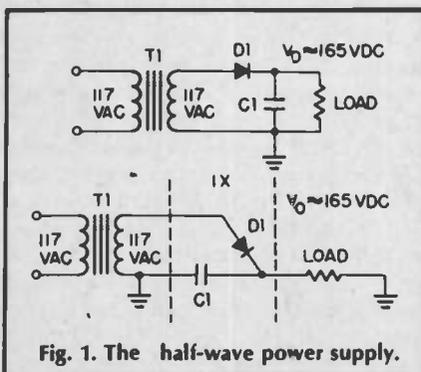
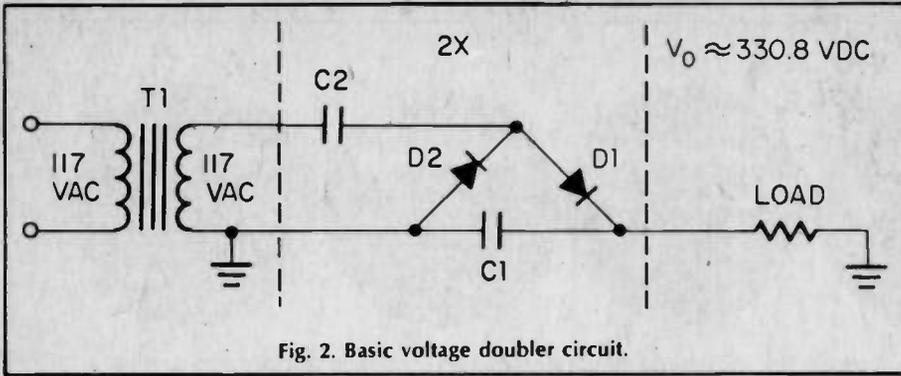
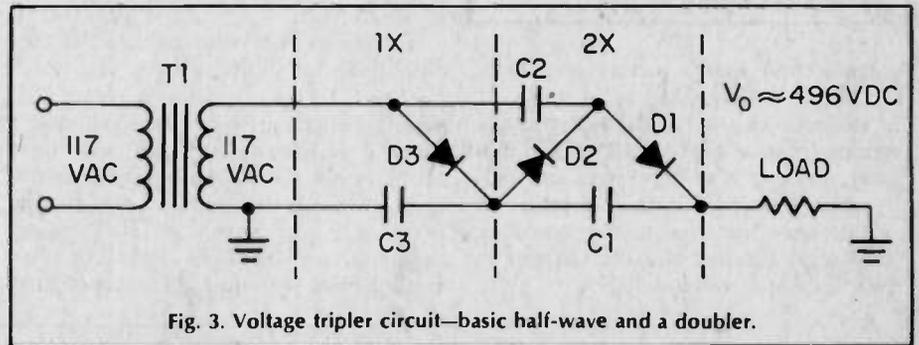
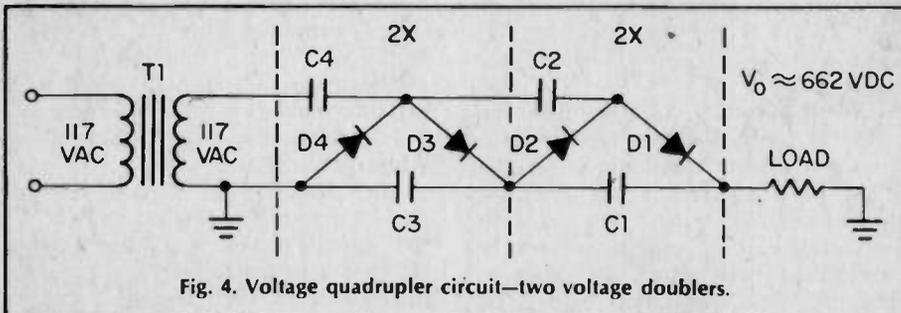

Fig. 1. The half-wave power supply.
Fig. 2. Basic voltage doubler circuit.
Fig. 3. Voltage tripler circuit—basic half-wave and a doubler.
Fig. 4. Voltage quadrupler circuit—two voltage doublers.
Referring to Fig. 1, note that the basic voltage multiplier circuit is none other than our old friend the humble half-wave power supply. This simple circuit forms the basis for a complete family of voltage multiplying circuits, and is shown both in the standard schematic format and a simplified form that will facilitate the development of additional multiplier circuits.
**Double Up.** By adding a second diode and capacitor combination to the basic half-wave circuit, as shown in Fig. 2, it becomes a voltage doubler circuit—effectively multiplying the peak value of the input voltage by two. Notice that the new diode, D2, and capacitor, C2, are connected in series (cascade) with the original diode, D1, and capacitor, C1, and are between them and the transformer, T1.
The circuits shown in Figs. 1 and 2 are the basis of all voltage multiplication. The voltage tripler circuit shown in Fig. 3 is merely the doubler circuit shown in Fig. 2 connected in cascade with the half-wave circuit shown in Fig. 1. Likewise, the quadrupler circuit shown in Fig. 4 is simply two doublers connected in cascade. To multiply a voltage five times just cascade two doubler circuits with a half-wave circuit. To multiply a voltage six times just cascade three doubler circuits. And so on. As most things are, it is simple once you see the patterns involved.
**The Fog Lifts!** Notice the basic pattern that forms voltage multiplier circuitry. Beginning with the half-wave circuit shown in Fig. 1, and moving from the load toward the transformer,